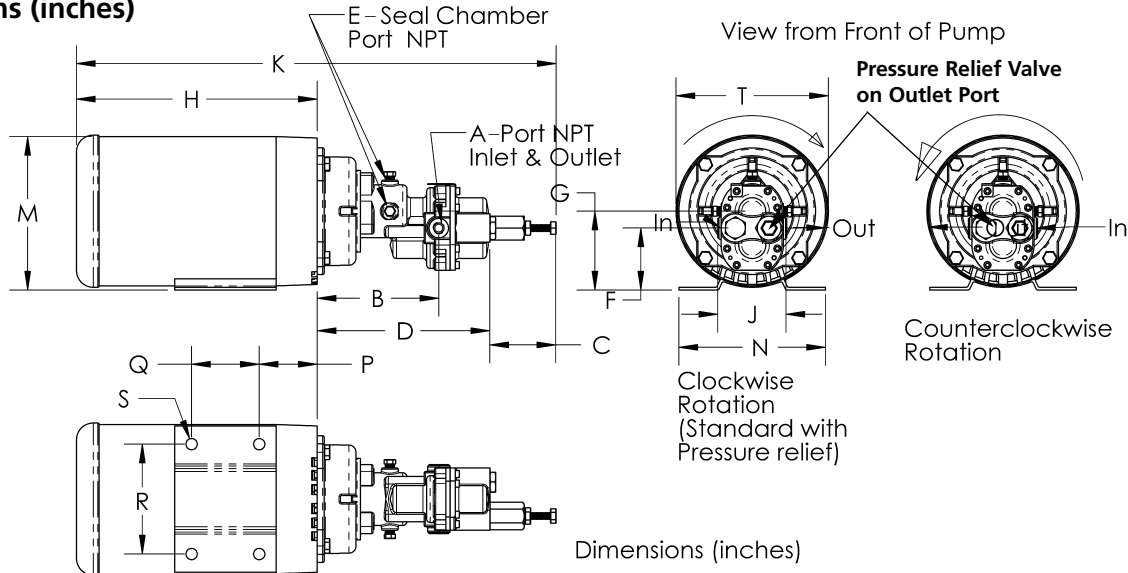

Figure 1
installed by manufacturer (See Figure 1).
5. On all standard models, pressure relief valve is always on discharge side (See Figure 1).